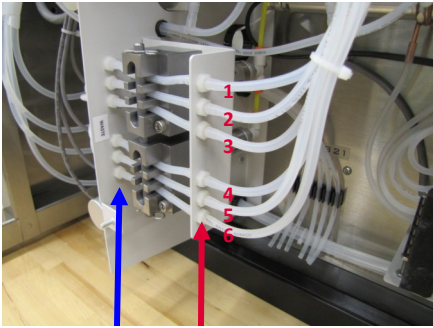
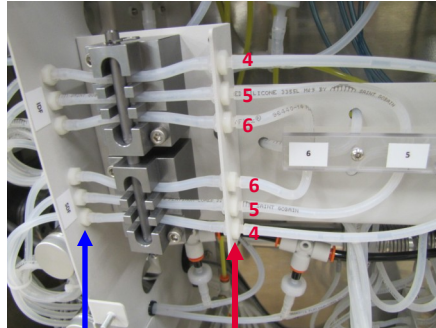
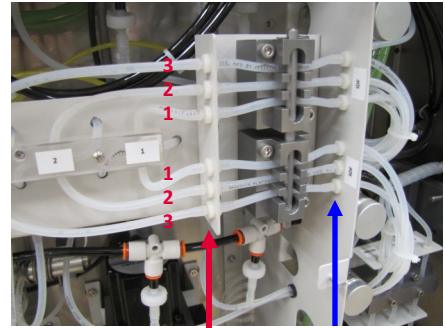

Figure 1
Figure 2
Figure 3
1. Locate the Output Pinch Valve that is in need of replacement. Figure 1 shows the TDF29.1 Waste Pinch Valve. Figure 2 shows the TDF29 IDF/SDF Pinch valve for tubes 4-6, while Figure 3 shows the TDF29 IDF/SDF Pinch Valve for tubes 1-3. Note the red tube numbering on each figure. Identify the tubes by marking them if necessary so that upon reassembly the tubes are reconnected correctly. For the Output Pinch Valve Assembly being replaced, disconnect the six silicone tubes from the barbed fittings on the Pinch Valve bracket (marked by the red arrow). Disconnect the six silicone tubes from the barbed fittings on the Gusset Panel (marked by the blue arrow). Remove and discard the 3/4" Pinch Valve Tubes.